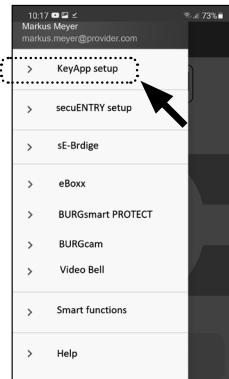

Fig. 38
- ③ Tap on the menu item "KeyApp setup" (Fig. 38).